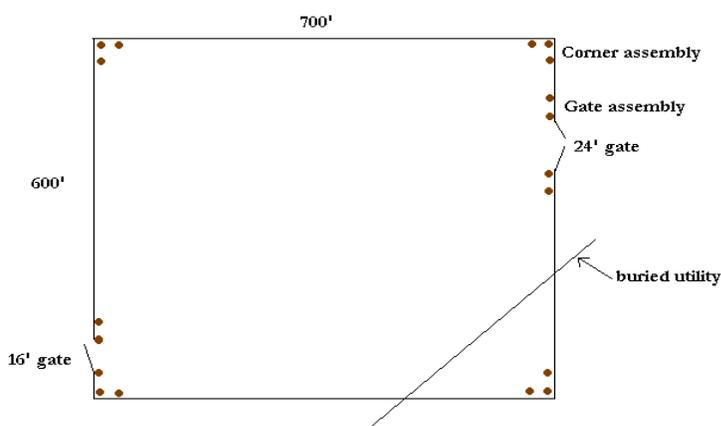

Figure 3. A simple sketch of the fence layout.
8. Prepare a sketch of the layout of the fence, highlighting the perimeter dimensions; locations of corner and brace posts; as well as gates and gate assemblies (**Fig.3**). Indicate any features or obstacles to be avoided, such as utilities.